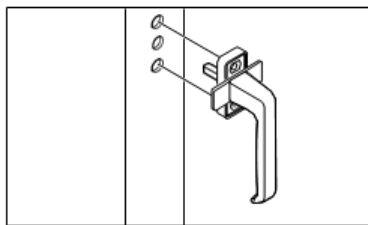

Figure 2-4. Euro-Handle in the Lock position
- 2.3 Lock position: install the Euro-Handle on the sash in the vertical Lock position, with the handle pointing down. Insert the shaft into the center hole. See fig. 2-4.